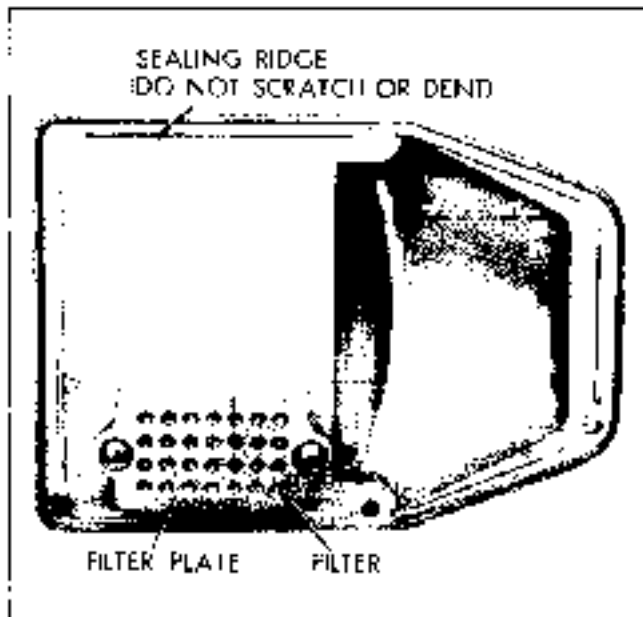

Fig. 15-5 Cover and Inlet Filter Assembly
1. Remove screws and cover. To replace air filter in cover, push filter out from under filter plate (Fig. 15-5).